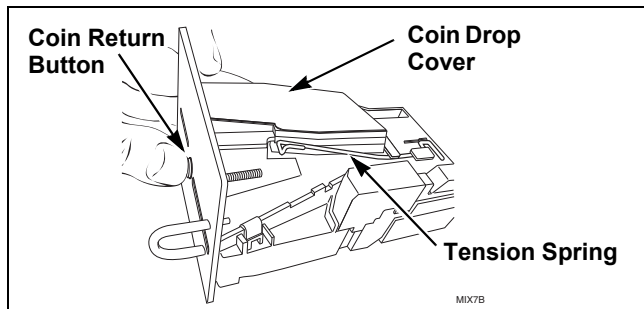
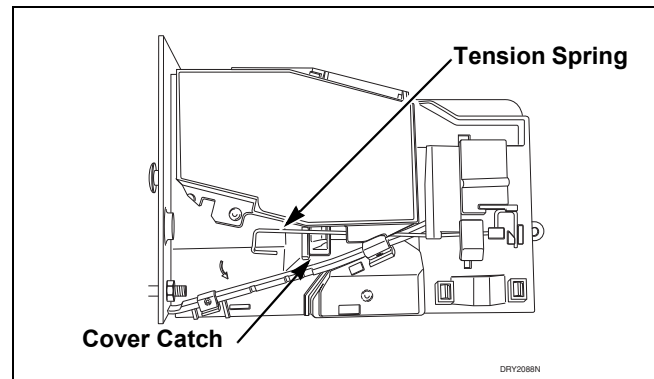
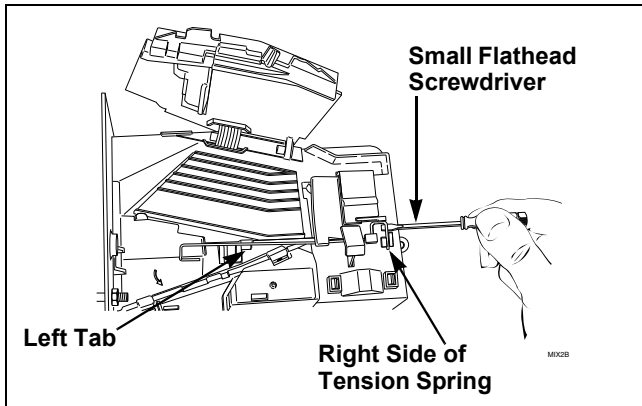

Figure 2
Figure 4
Figure 5
- (1) Clean coin drop. Refer to *Paragraph 41*.
- (2) On electronic coin drops with an old-style tension spring (shown in *Figure 2* and *Figure 4*), test and replace tension spring using the following instructions.
- (1) Push coin return button to open and close coin drop cover to clear possible coin jams. Refer to *Figure 2*.
- (1) Move tension spring downward until cover catch is free. Refer to *Figure 4*.
- (3) Place a small flathead screwdriver under right side of tension spring and lift up. Refer to *Figure 5*.
- (4) Use screwdriver to move spring approximately 3 mm to left.
(5) Lift spring over left tab. Refer to *Figure 5*.
- (1) Reinstall coin drop into machine.
- (2) Reconnect electrical power to machine and drop.
- (3) Add a coin to drop to verify that coin drop is operating properly and that electrical connection is working properly.
- (13) Lift spring gently to place in position under left tab.
- (14) Push spring to right until it snaps into position. Refer to *Figure 5*.
- (15) Close coin drop cover.
- (16) Move tension spring over cover catch. Refer to *Figure 4*.